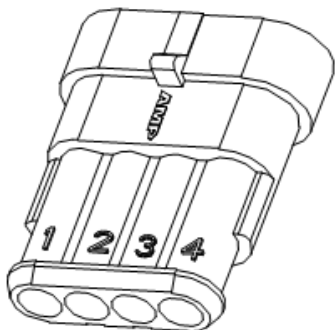

Fig. 6 TRD-500 slot
6. Disconnect supply and return pipes from a tank and direct them into supply and drain capacities. (See fig. 6). Do not let the air into supply hose at hoses displacement. If necessary pump over the fuel supply system.